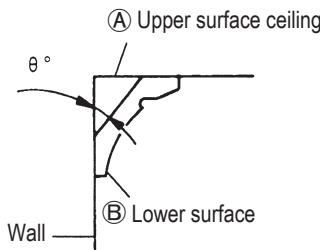
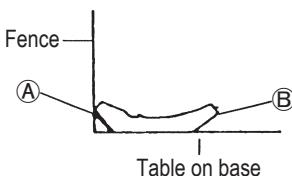
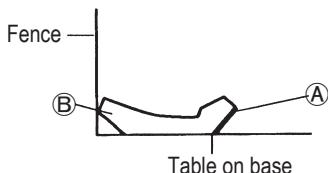

Fig. 41
Fig. 45
Fig. 46
Fig. 41 shows two common crown molding types having angles of ( $\theta$ )  $38^\circ$  and  $45^\circ$ .
For the typical crown molding fittings, see Fig. 41.
- Position the crown molding so that the upper surface (Ⓐ in Fig. 41) contacts the fence as indicated in Fig. 45.
- Position the crown molding so that the lower surface (Ⓑ in Fig. 41) contacts the fence as in Fig. 46.
- Position the crown molding so that the upper surface (③ in Fig. 41) contacts the fence as indicated Fig. 49.
- Position the crown molding so that the lower surface (④ in Fig. 41) contacts the fence as in Fig. 50.